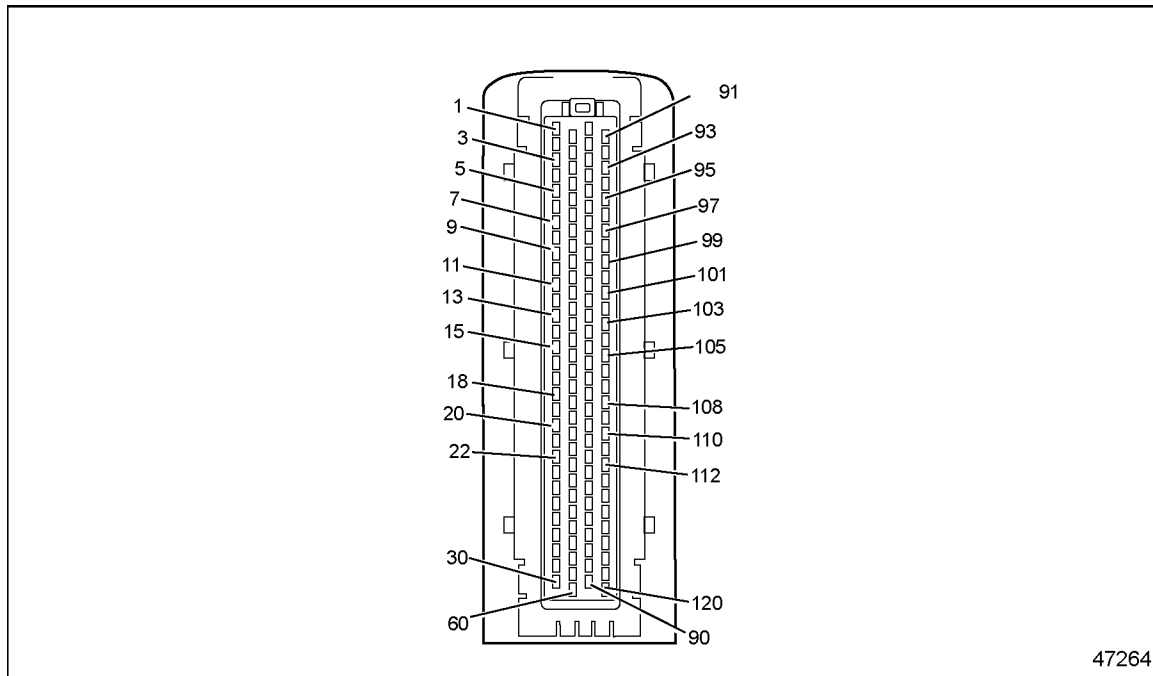

Figure 120-1 120-pin MCM Connector
- [a] If voltage is present, repair the short to power between pin 11 of the Rear Injector Harness 12-pin connector and pin 7 of the 120-pin MCM connector. See Figure 120-1. Refer to section 120.1.1.1